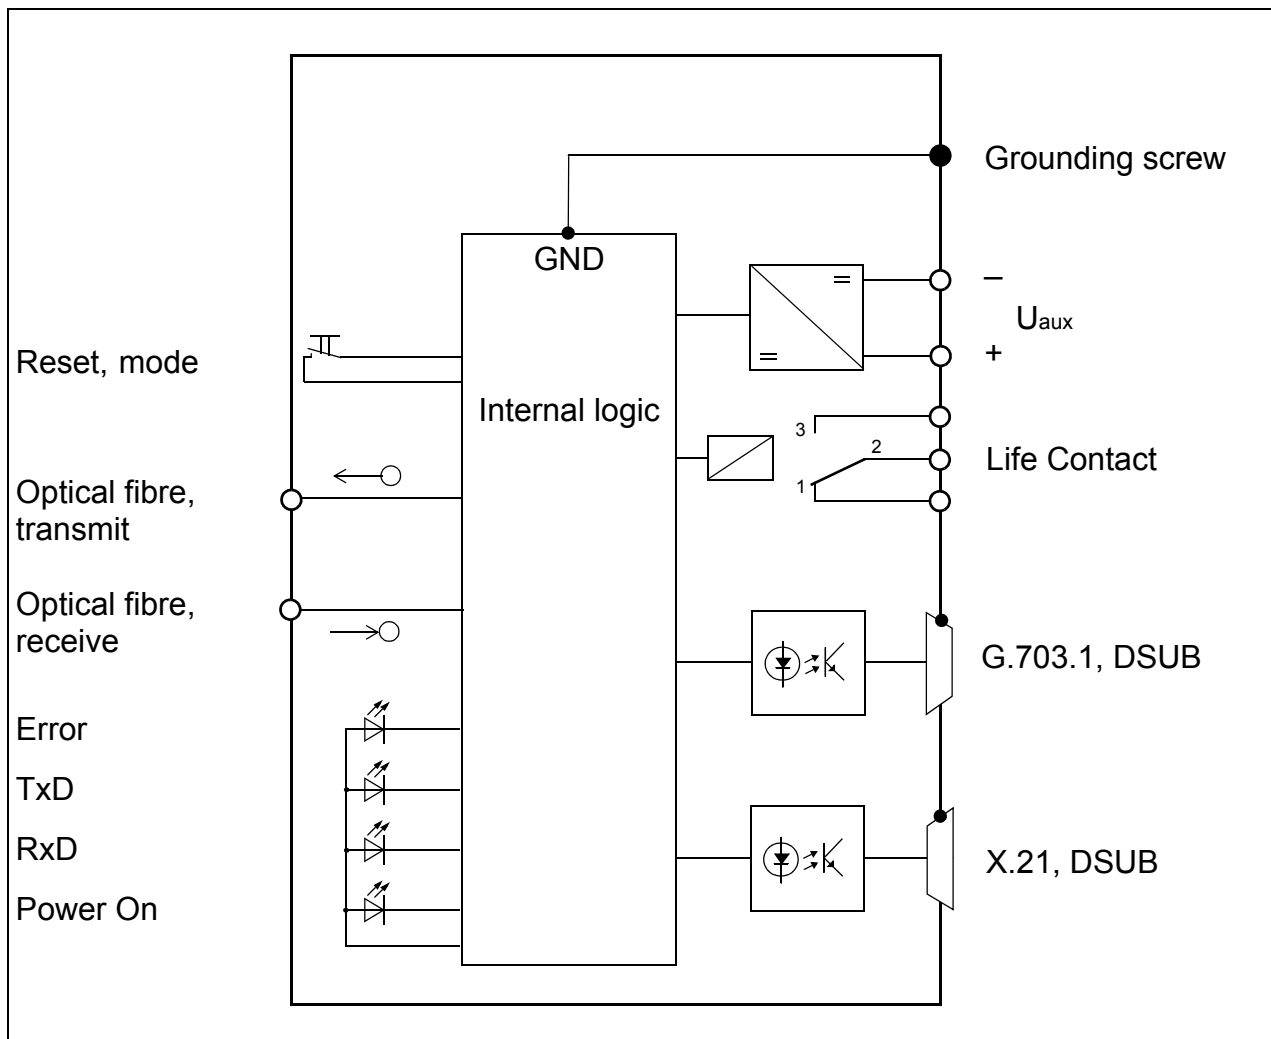

Figure 2 Hardware structure of the communication converter
The task of the communication converter is to perform an adaptation of the available fibre optic active interface in the protection device (DTE) to the physical specification of the respective interface of the communication network (DCE). The adaptation occurs completely bit-transparent, i.e. direct forwarding of the information without adding or filtering out information. Figure 2 shows the hardware structure.
- ❑ **X.21:** The signals of the X.21 interface must be applied to the 15-pole DSUB-plug. The cable screen is connected to the housing. The X.21 signals are electrically isolated from the other electrical circuits (Figure 2).
- ❑ **G.703.1:** The signals of the G.703.1 interface must be applied to the 9-pole D SUB-socket. The cable screen is connected to the housing. The G.703.1 signals are electrically isolated from the other electrical circuits (Figure 2).